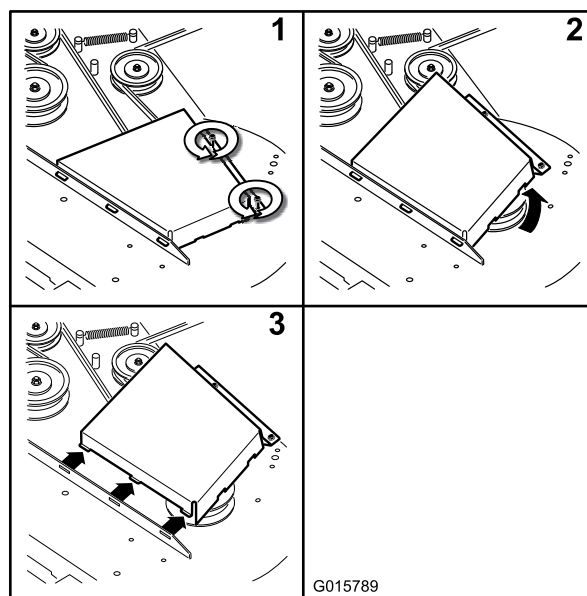

Figure 67
- Remove the belt covers (Figure 67).